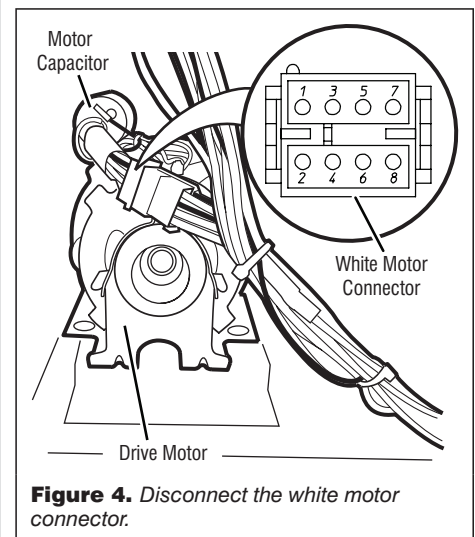

Figure 4. Disconnect the white motor connector.
5. Disconnect the white motor connector from the drive motor. See figure 4.
- 7.** Check the resistance value of the motor's Main winding coil by contacting points 7 and 8 of the white motor connector, as shown in figure 4, page 3.